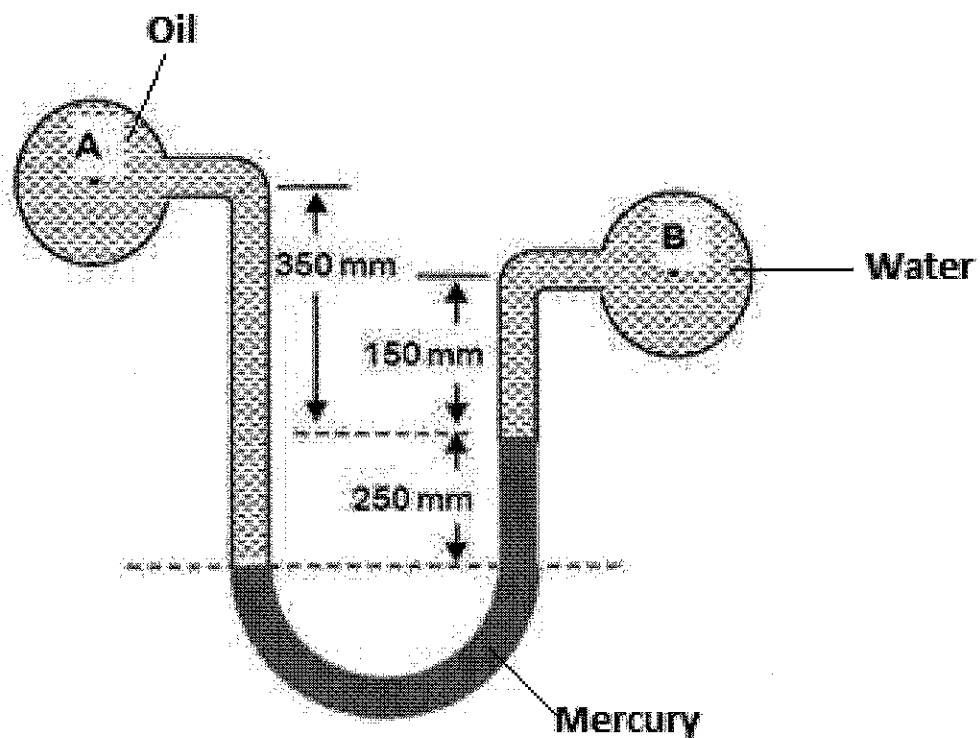

Figure 2(c) / Rajah 2(c)
- (c) A U-tube differential manometer as shown in **Figure 2(c)** which contains mercury of specific gravity 13.6 is connected to different pipes at A and B. Pipe A contains oil with specific gravity 0.92 and pipe B is carrying water. If the pressure at point A is 125 kNm^{-2} , calculate the pressure at point B.